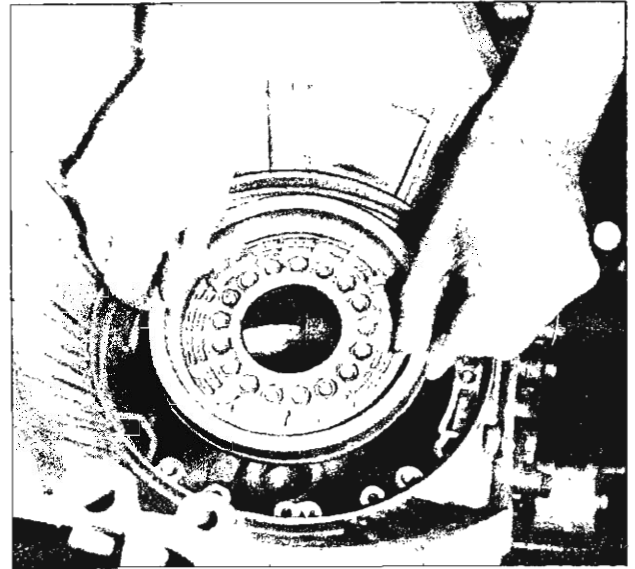

Fig. 34PG—Installing Reverse Piston
8. Install the inner and outer rear piston seals on the reverse piston and, lubricating the piston and case with transmission oil, install the piston into the case (fig. 34PG). If necessary, carefully slide a feeler gauge around the outer diameter of the piston to start the seal ring into the bore.